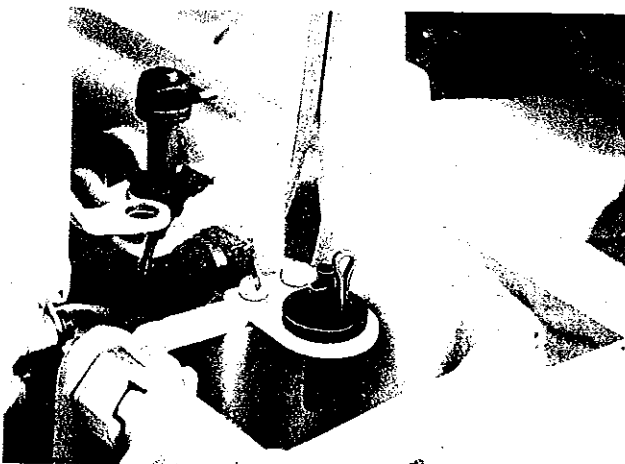

Figure 28
- (1) Place shift lever in neutral.
- (2) Remove the shear pin holder and flat spring by removing the two fillister head screws (Figure 28).
- (3) Disconnect the link rod from the shifter bracket.
- (4) Remove the shifter bracket and cam by driving out the spirol pin in the shifter bracket.
- (5) Remove the handle from the rod by driving out the spirol pin in the handle.
- (6) Inspect the flange bushings for damage or wear and replace if necessary.
- (7) Inspect the shifter bracket and cam for elongated holes and worn down cam lobes. Replace if necessary.
- (8) Fasten the handle to the rod with a spirol pin.
- (9) Assemble the rod and handle, shifter bracket, and cam into the carrier handle.
- (10) Fasten the shifter bracket to the rod with a spirol pin.
- (11) Connect the link rod to the shifter bracket and secure with the hitch pin.
- (12) Install the shear pin holder and flat spring and secure with two fillister head screws.